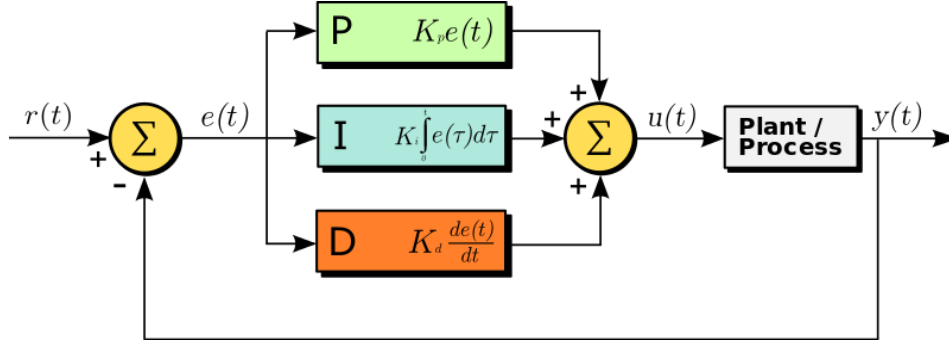

Figure 6.2.: PID control block diagram in a feedback loop. Credit: Arturo Urquizo, License: CC BY-SA 3.0.
A PID controller corrects a given system, e.g., our cooler, based on proportional (P), integral (I), and derivative (D) terms. Figure 6.2 shows a block diagram of the control loop for a PID controller. The set point is denoted $r(t)$, the achieved point $y(t)$. The “plant / process” in this diagram would be our thermoelectric cooler. From the set point and current value, an error $e(t)$ is calculated. Using this error in multiple terms, here all three PID terms, a response $u(t)$ is calculated. The overall control function takes the form